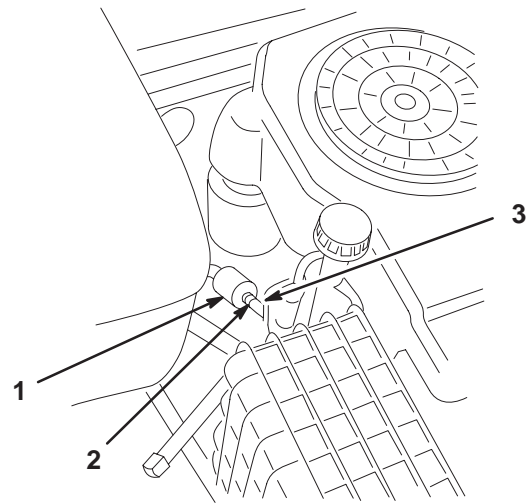

Figure 35
3. Loosen the hose clamp at the fuel filter and slide it up the fuel line away from the fuel filter (Fig. 35).
4. Pull the fuel line off of the fuel filter (Fig. 35).
6. Install the fuel line onto the fuel filter. Slide the hose clamp close to the fuel filter to secure the fuel line (Fig. 35).
3. Squeeze the ends of the hose clamps together and slide them away from the filter (Fig. 35).
5. Install a new filter and move the hose clamps close to the filter (Fig. 35).